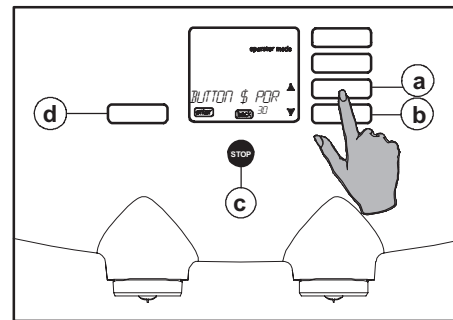

Fig. 34 Counter button 1 POR(tions)
9. Use with the scroll buttons ▲ (fig. 34 a or b) the counter of the desired selection button.